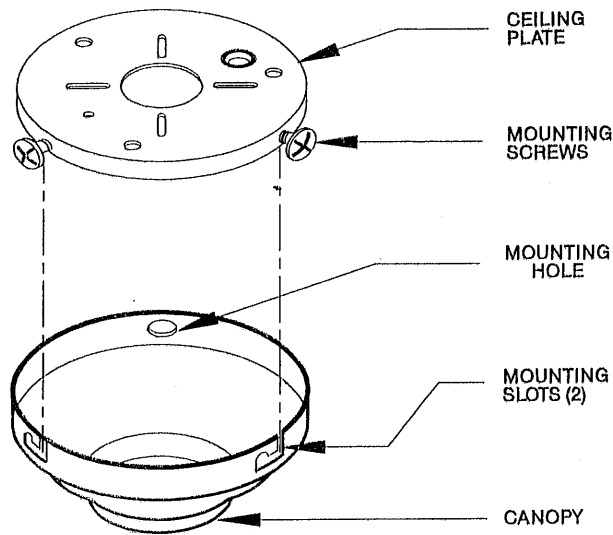

Figure 6. Mounting Fan to Ceiling Plate
A. The ceiling plate has (3) mounting screw holes located on the side. Install (2) #10-32 X 1/2" Phillips round head screws halfway into two of these holes. See Figure 6.
B. Remove the fan from the ceiling plate hook. Make sure not to break any of the wire connections. The canopy has (2) mating slots and (1) mating hole. See Figure 6.